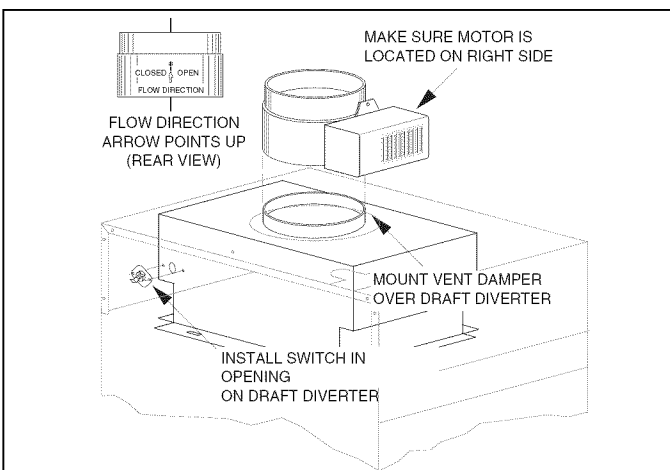

FIGURE 2.5: ATTACHING VENT DAMPER TO DRAFT DIVERTER & FLUE PIPE
Secure the vent damper housing to the draft diverter outlet with sheet metal screws or pop rivets. Refer to Figure 2.5 for fastener locations. Install flue pipe over top of vent damper and secure to damper housing with sheet metal screws or pop rivets.
2. For vent damper-equipped models, with the thermostat set to call for heat, observe that vent damper position indicator rotates to the open position (see Figure 2.5). Damper must be in the open position when appliance main burner is operating.